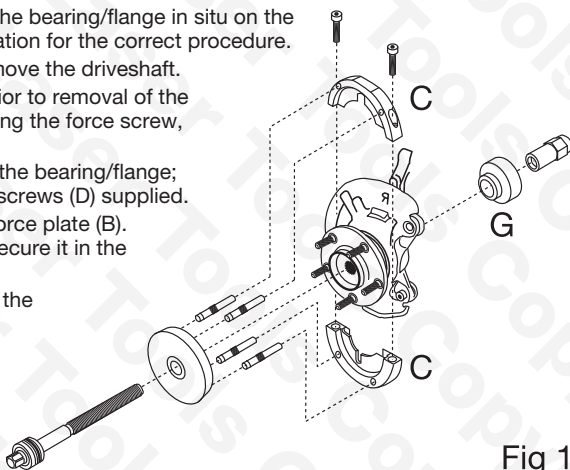
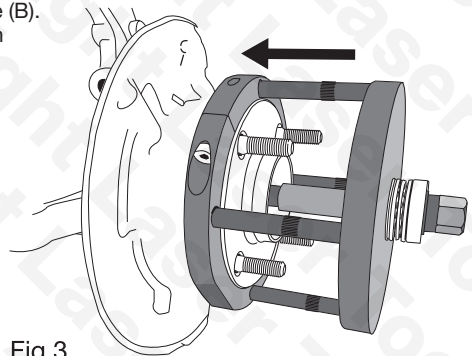
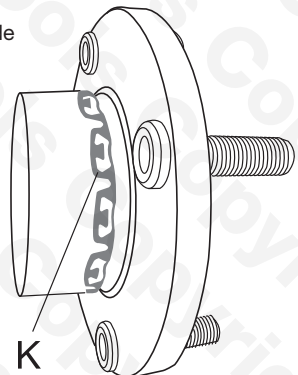

Fig 1
Fig 3
Fig 4
- Assemble the removal clamshells (C) to the bearing/flange; refer to diagram (Fig 1), secure with set screws (D) supplied.
- Assemble the four force pins (E) to the force plate (B). The rubber O-ring on the force pin will secure it in the force plate socket.
- From behind, fit the extraction adaptor (G) over the end of the force screw - refer to Fig 1. Take care to line up cut outs with the ABS sensor.
- Secure the assembled tool with the force screw nut (F). Long threaded end of force screw nut in towards force screw - refer to Fig 1.
- To withdraw the bearing/flange, hold the force nut (F) steady with a 30mm spanner while turning the force screw with a 22mm socket on a breaker-bar or long ratchet handle. (Do not use air tools.)
- Refer to Fig 3: Offer up the force plate/pin assembly to the clamshells, and fit the main force screw through the force plate/pin assembly.
- From behind, fit the insertion adaptor (I) over the end of the force screw so that it sits on the outer edge at the rear of the hub carrier. Take care to line up cut outs with the ABS sensor.
- To push in the new bearing/flange, hold the force nut (F) steady with a 30mm spanner while turning the force screw with a 22mm socket on a breaker-bar or long ratchet handle. (Do not use air tools.)
- Turn force screw until bearing/flange is fully home. If fitted, ensure that the tangs of the barbed retaining ring (K) are correctly seated in the retaining groove. See Fig 4.